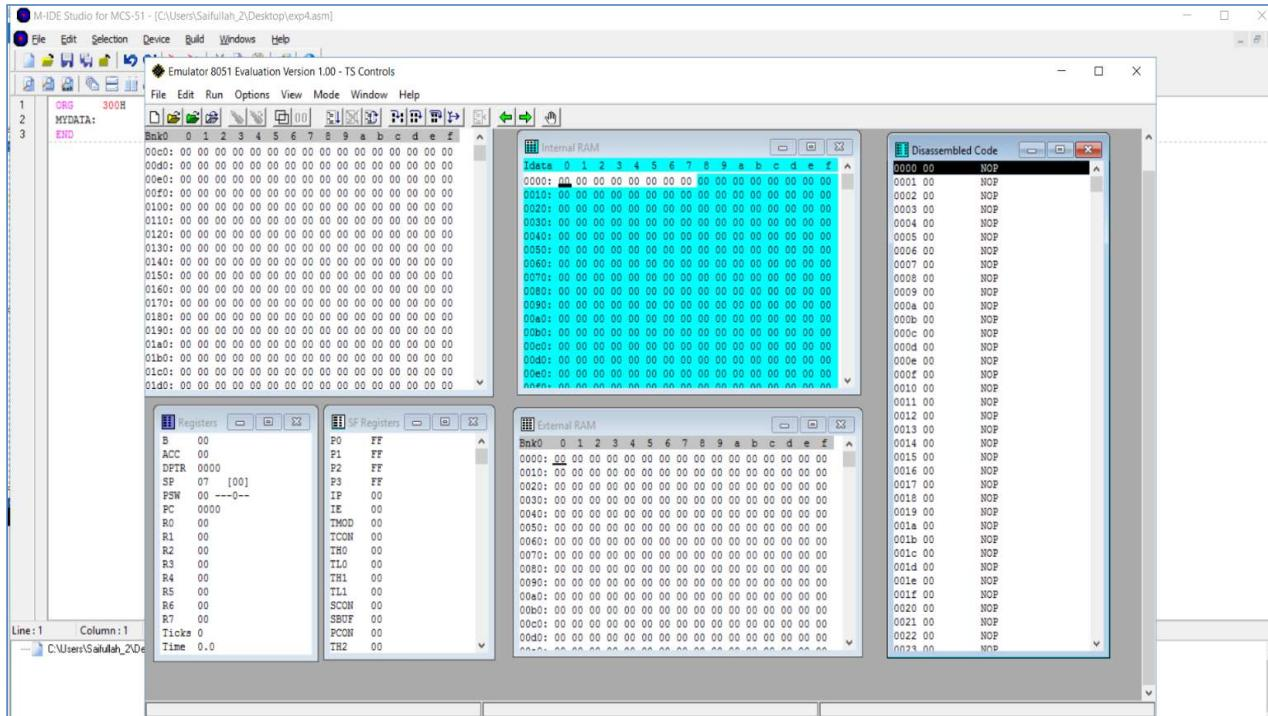

Figure 4.8: Windows Showing the Contents of Different Resources of the 8051
- i. An example of the functions of windows is shown in Figure 4.8. Identify different windows in the simulator. E.g., Windows for: